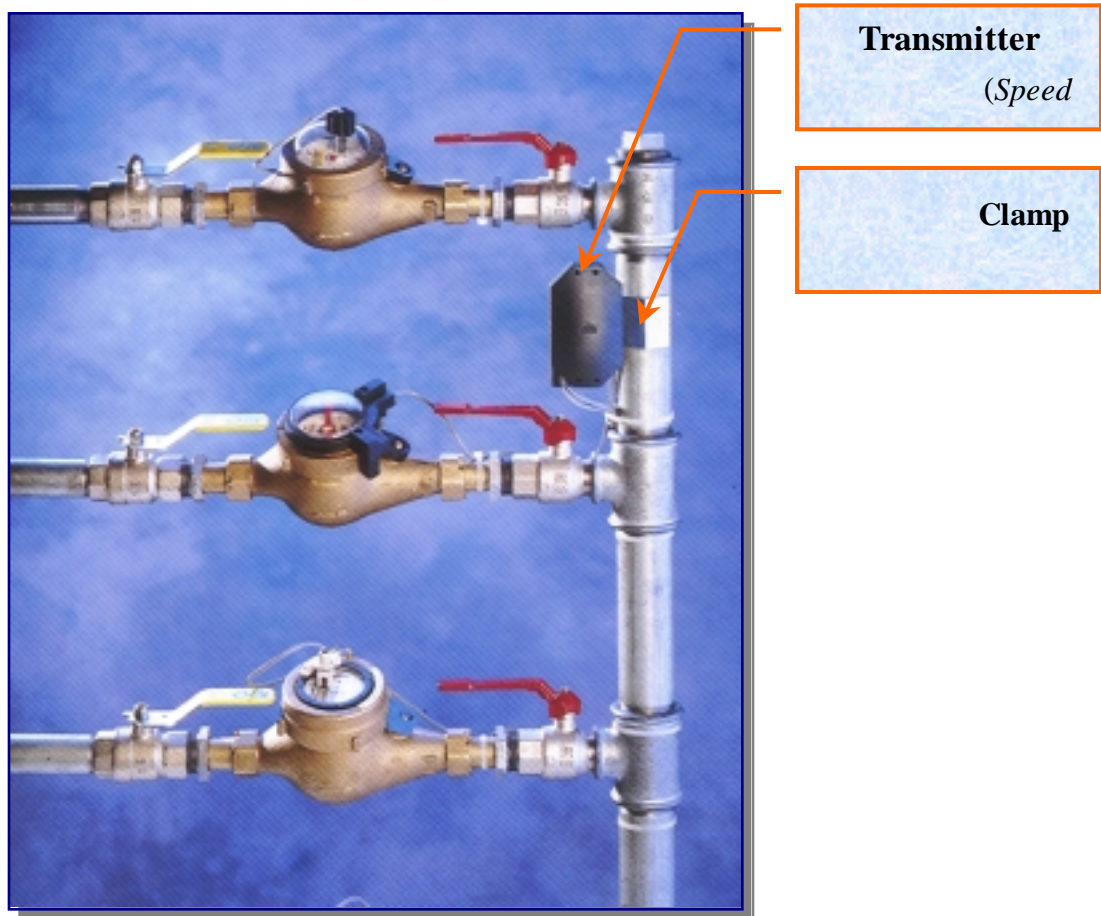

Figure 2-1: Speed HPTx Typical Installation
Figure 2-1 (see next page) shows a typical installation of a *Speed HPTx* unit, connected to several meters (of various types) at a single location. The unit can be connected to any type of meter which has a pulsed output (a passive magnetic open/short reed relay).
- a. For pipeline installations (as in Figure 2-1), first attach the stainless steel clamp (see Figure 4-1) to the pipeline, close it around the pipeline and fasten the screw in the middle of the device. Place the unit's box base on top of the screw and install it using two steel screws.